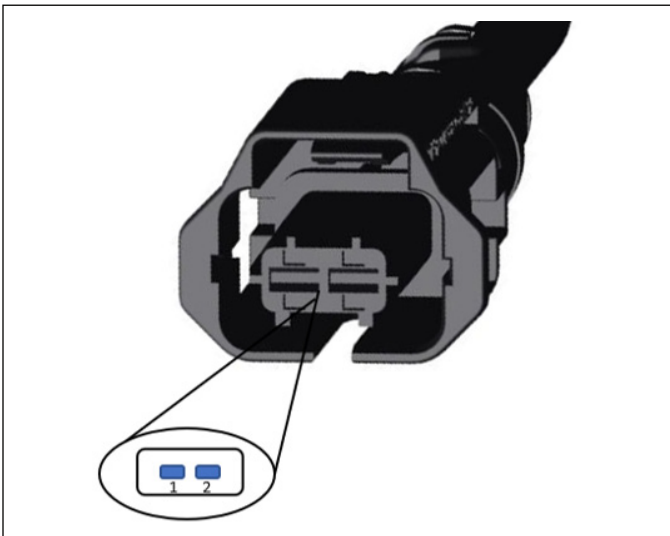

**Figure 14 – Pressure Sensor Connector Pins**
See Figure 14 and refer to Table 4 for the connector pins for the pressure sensor.
4. Remove the alignment fixture (if used) and install the pressure sensor cover by aligning the bottom tabs with the open bolt holes. See Figure 14.